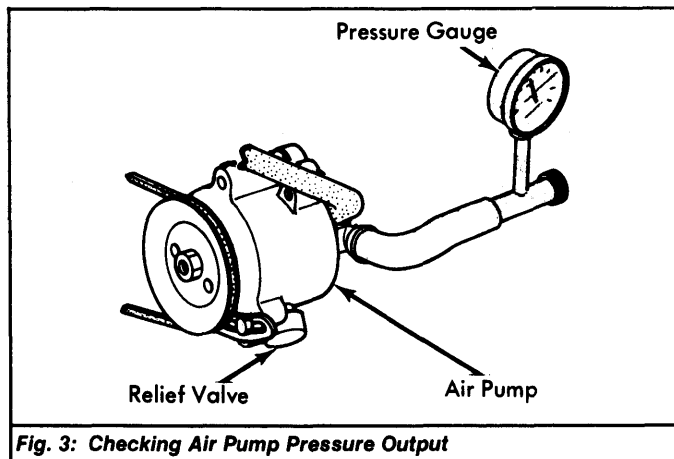

Fig. 3: Checking Air Pump Pressure Output
- 3) Disconnect hose from air pump outlet and attach a suitable pressure gauge to outlet. Connect a tachometer to engine. See Fig. 3.